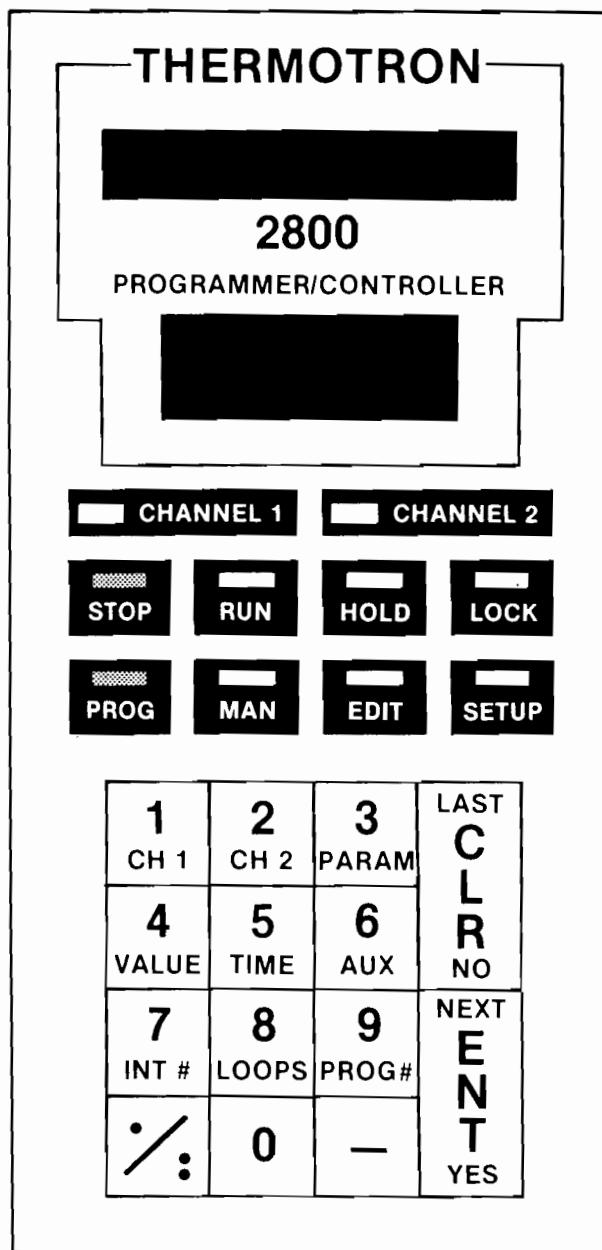

FIGURE 5
1. While the program is in the STOP state, press the PROG key. See Figure 5.